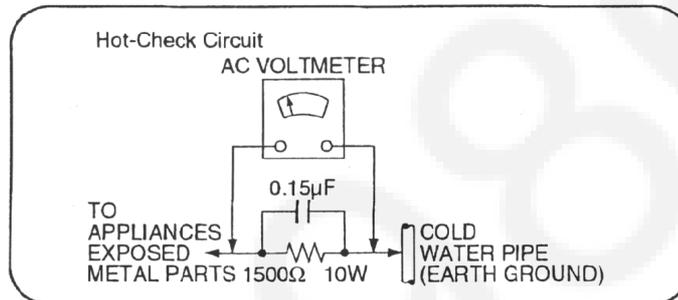

Fig. 1
1.1.2. LEAKAGE CURRENT HOT CHECK (See Figure 1.)
2. Connect a 1.5kΩ, 10 watts resistor, in parallel with a 0.15µF capacitors, between each exposed metallic part on the set and a good earth ground such as a water pipe, as shown in Figure 1.